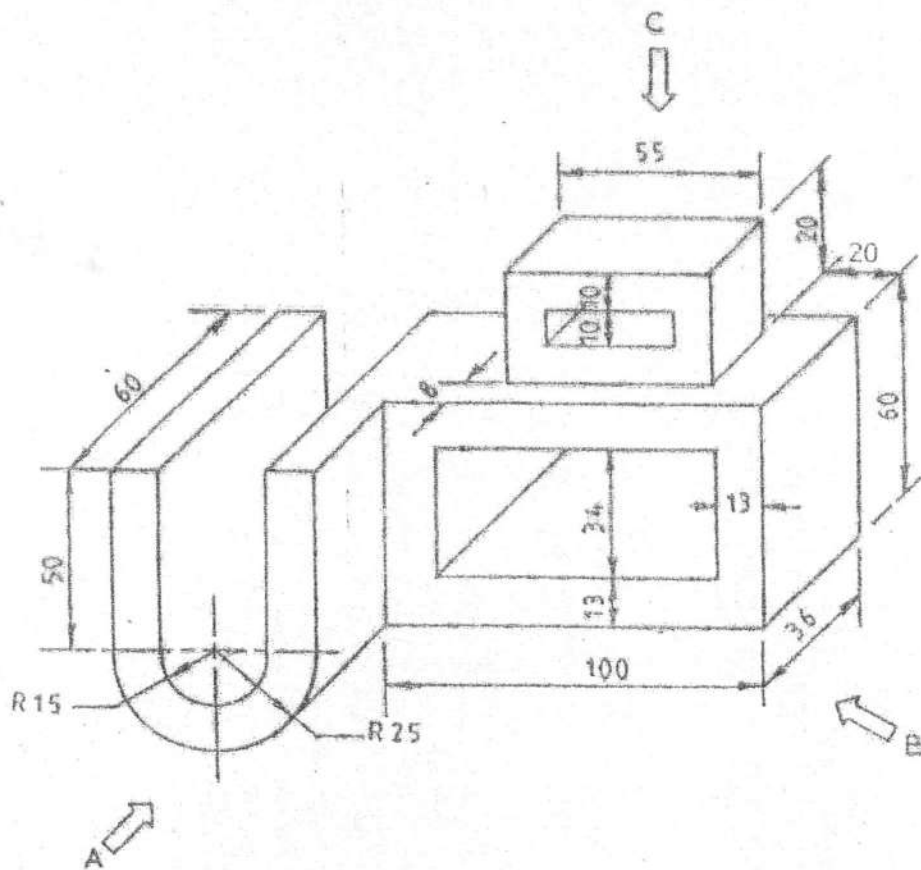

Fig. 1
5. Figure 1 shows a pictorial view of a block bearing.